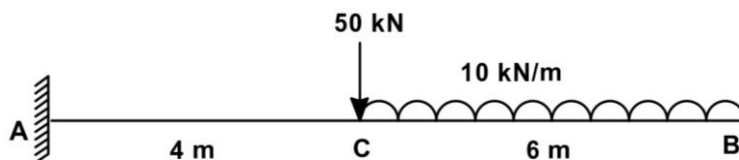

Figure-2
| (b) Calculate support reactions for the beam shown in Figure-2 . | 04 |
(1) Circular cross section (2) Symmetric 'I'-Section
- (c) For the beam shown in **Figure-2**, calculate the maximum Bending stress induced at a section. Take beam cross section 300mm (width) x 600mm (depth). Also, plot bending stress variation across the section. **07**
- (c) For the beam shown in **Figure-2**, calculate the maximum shear stress induced at a section. Take beam cross section 300mm (width) x 600mm (depth). Also, plot shear stress variation across the section. **07**